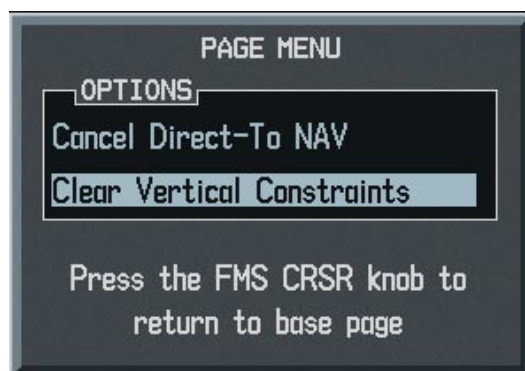

Figure 5-26 Clear Vertical Constraints
- 2) Press the **MENU** Key. With 'Clear Vertical Constraints' highlighted (Figure 5-26), press the **ENT** Key.